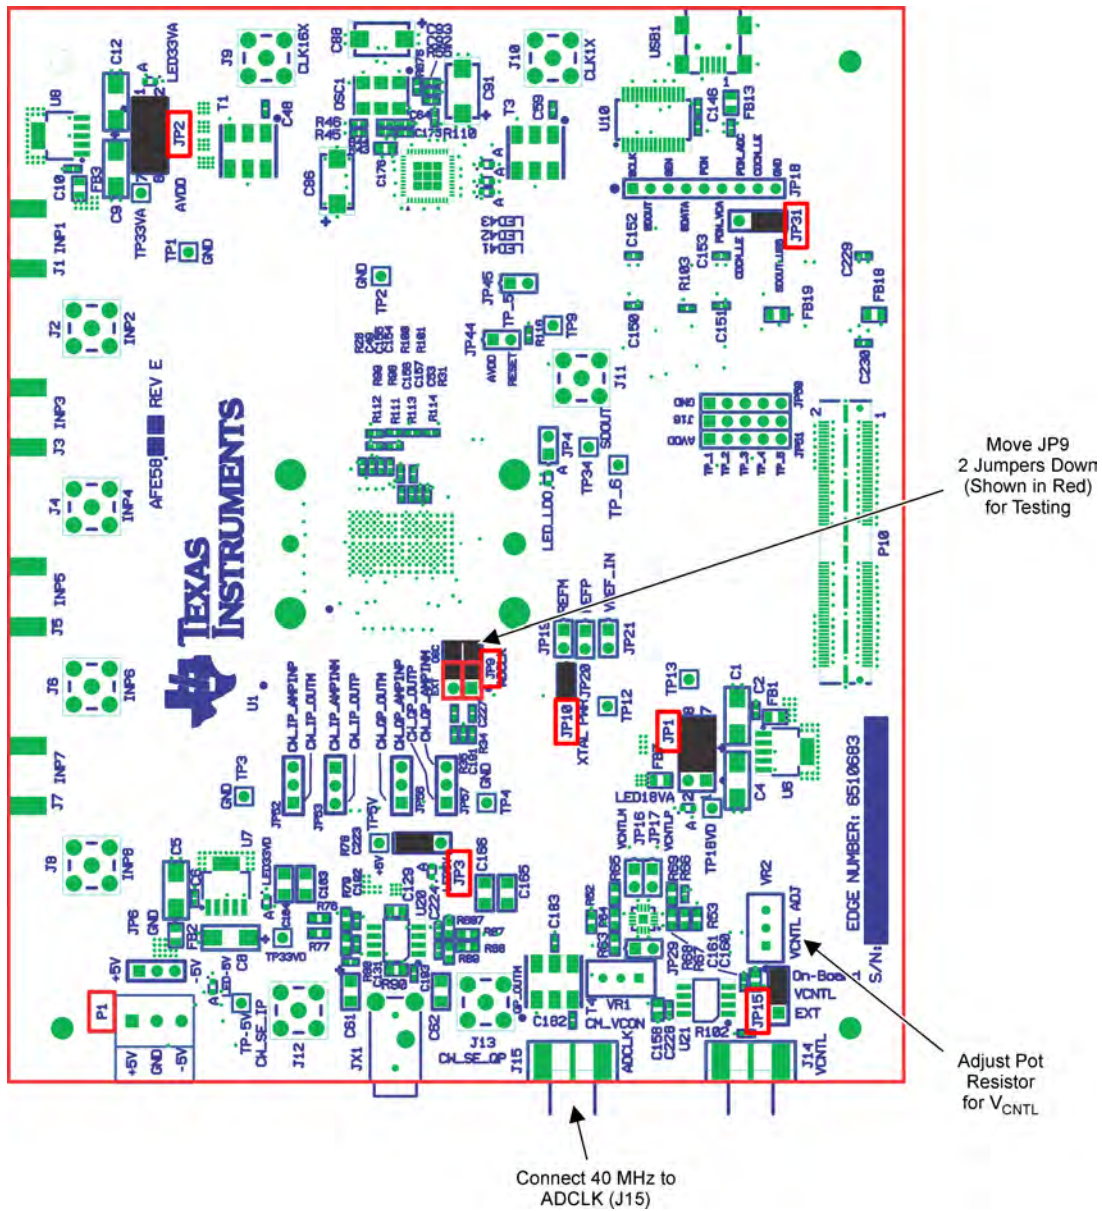

Figure 1. AFE5808/08AEVM Basic Configuration
Figure 1 shows the default configuration of the EVM from the factory. The accompanying list identifies the basic components on the EVM board.
6. JP31 always set as Figure 1.
Two EVMs are required to evaluate the AFE5808/08A device. The following illustration shows the exact setup of these two boards and external connectors. For the default configuration as shown in Figure 1, it is unnecessary to have an external sampling clock and external Vcntl supply. The onboard CMOS clock and onboard Vcntl are used.